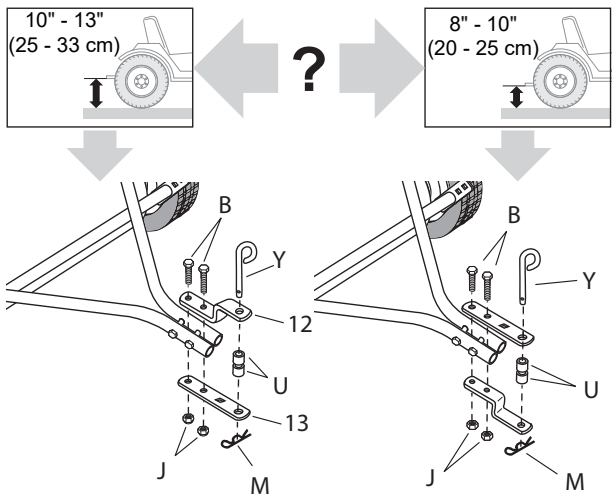

Figure 7
STEP 7: (SEE FIGURE 7)
- Attach the hitch bracket (12) and straight hitch bracket (13) based on your measurement requirements using 5/16-18 x 2" hex bolts (B) and 5/16-18 nylock nuts (J).
- Continue with a hitch pin (Y), hitch spacer tubes (U), and a 1/8" hair cotter pin (M). Hand tighten.